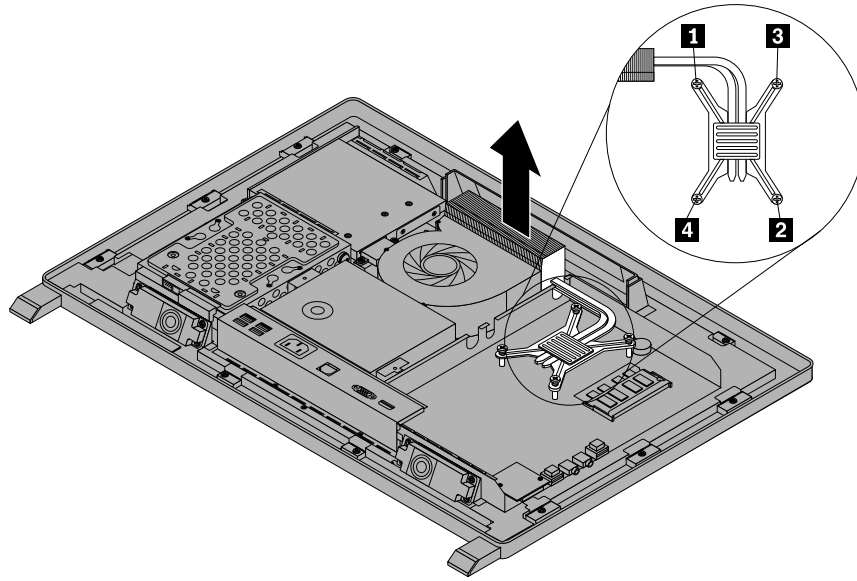

Figure 28. Loosing the four screws that secure the heat sink assembly to the system board
9. Follow the sequence **1**, **2**, **3**, **4** on the heat sink assembly to tighten the four screws to secure the heat sink assembly to the system board, as shown in Figure 28 “Loosing the four screws that secure the heat sink assembly to the system board” on page 104.